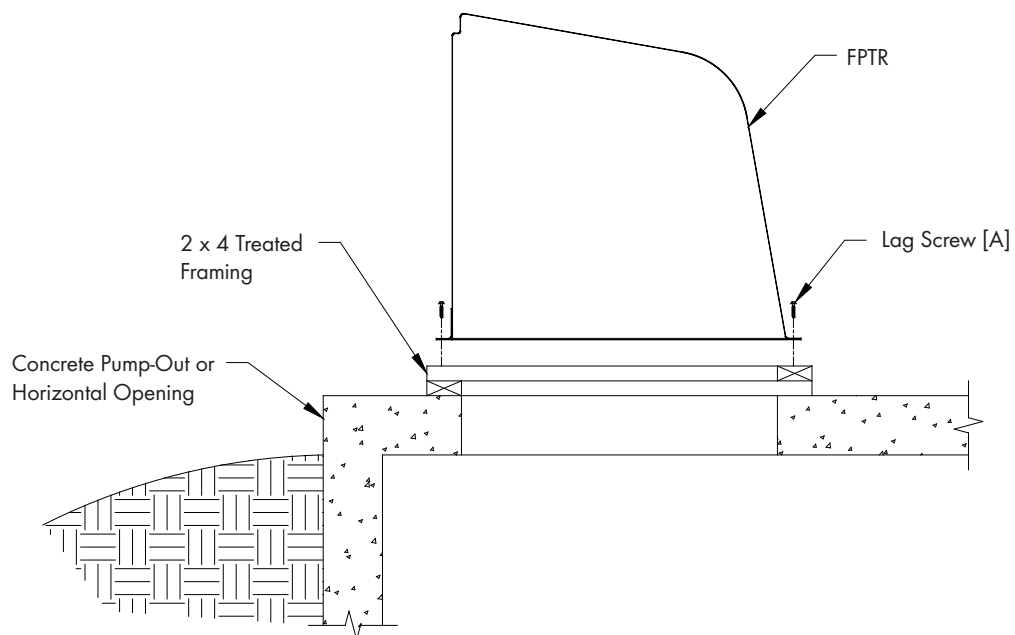

Figure 3
Apply caulk around FPTR flange and secure FPTR to framing using (8) Lag Screws [A] provided.. *See Figure 3.*